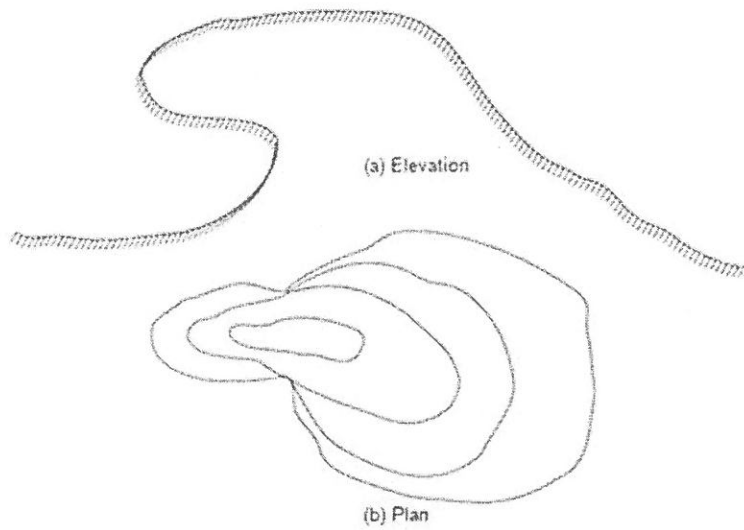

Fig. 4
12. If contour lines cross each other, it shows existence of overhanging cliffs or a cave (Fig. 4).